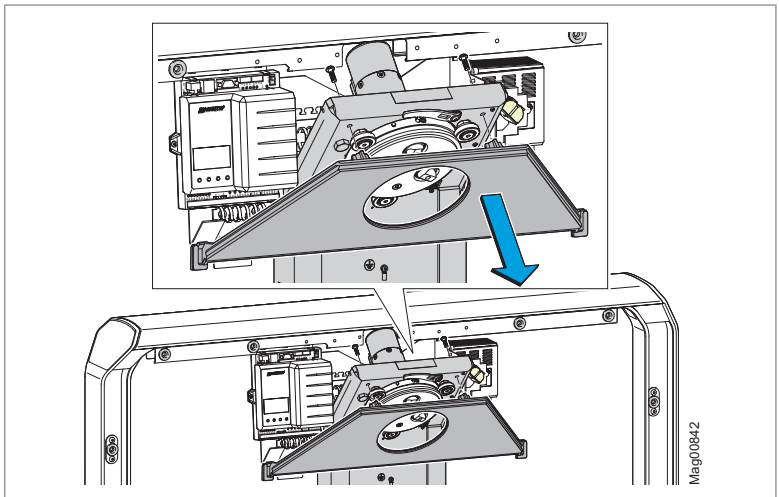

Fig. 23: Disassembly of the trapezoidal plate
6. Disassemble trapezoidal plate. ↗ Page 53, Fig. 23.